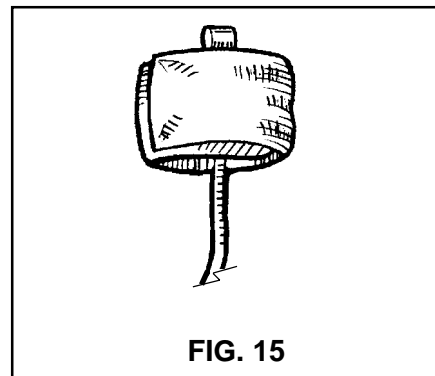

FIG. 15
17. Fold the pilot chute into thirds (FIG. 15).